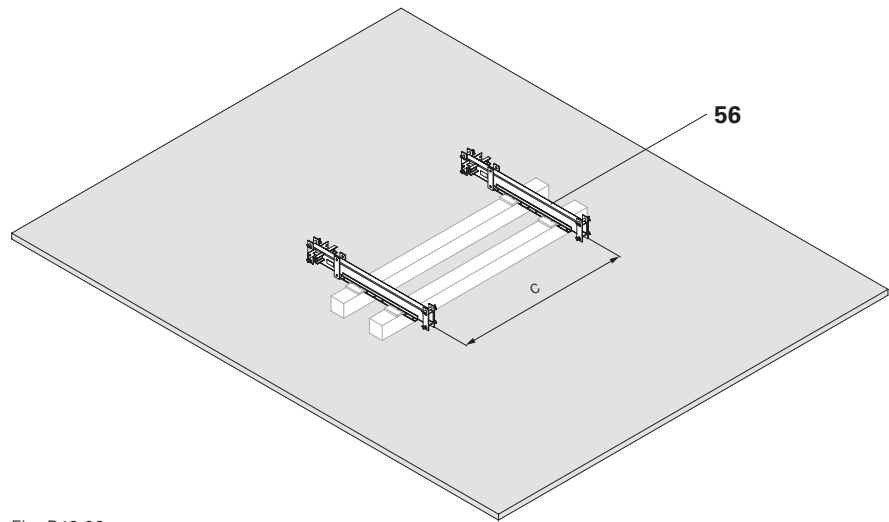

Fig. B10.06
1. Place the Finishing Platform Vertical ACS-G (**56**) on the squared timbers while observing the console bracket spacing c . (Fig. B10.06)